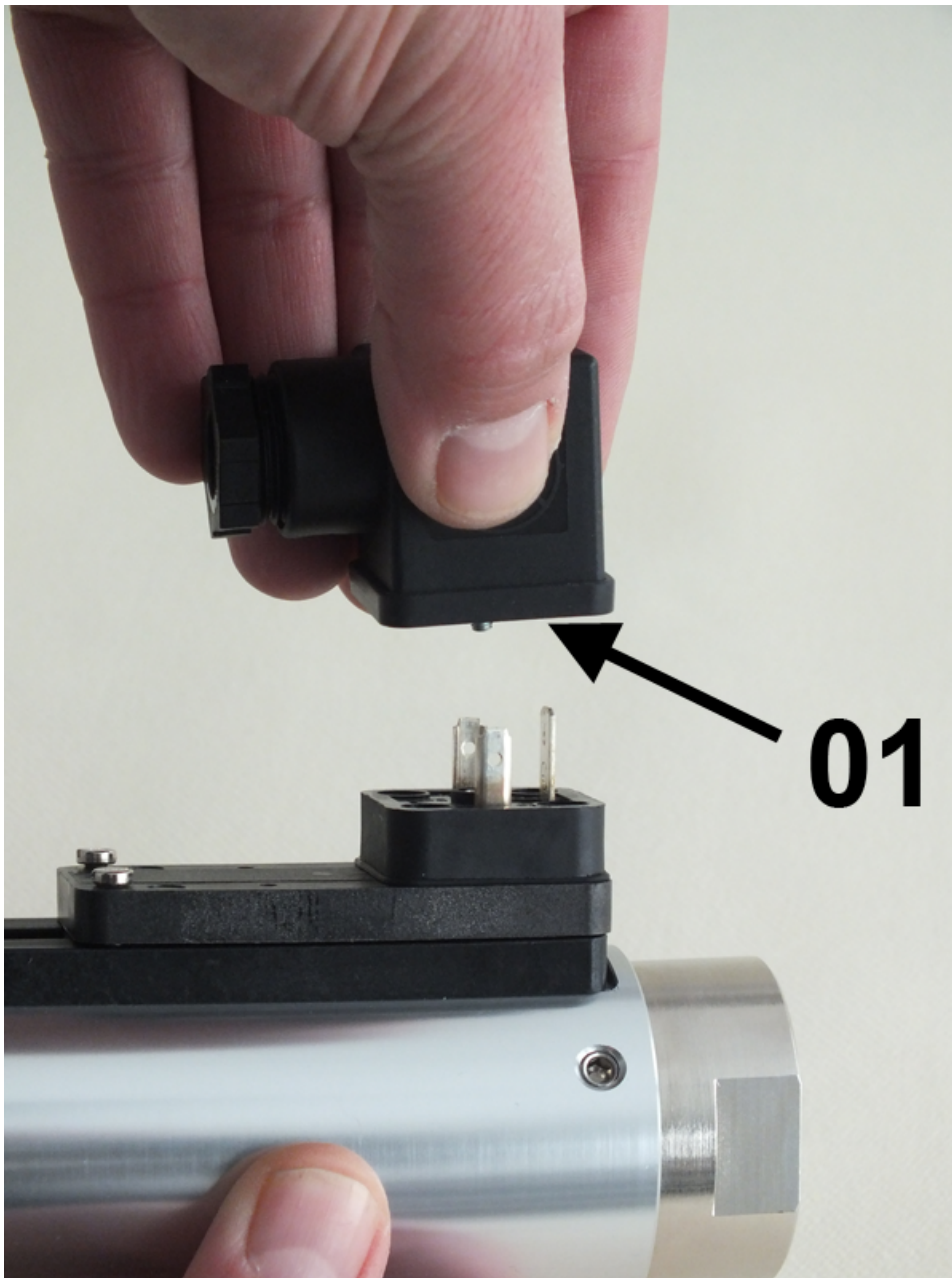

Fig. 28: Remove socket
2.  Remove socket (*Fig. 28/1*).